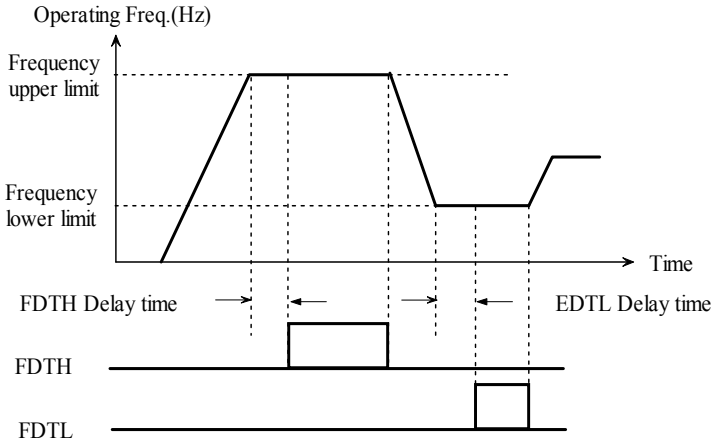

Fig. 5-3-10 FDTH/FDTL
- ◆ These two functions are enabled when setting DO and relay 1 output in P3.19 ~ P3.25 option as "FDTH upper limit frequency arrival" or "FDTL lower limit frequency arrival". Typically, these two functions are set to prevent load joggling and signal instability when switching between mains frequency and inverter variable frequency in application of multiple motors, as shown in Fig. 5-3-10.